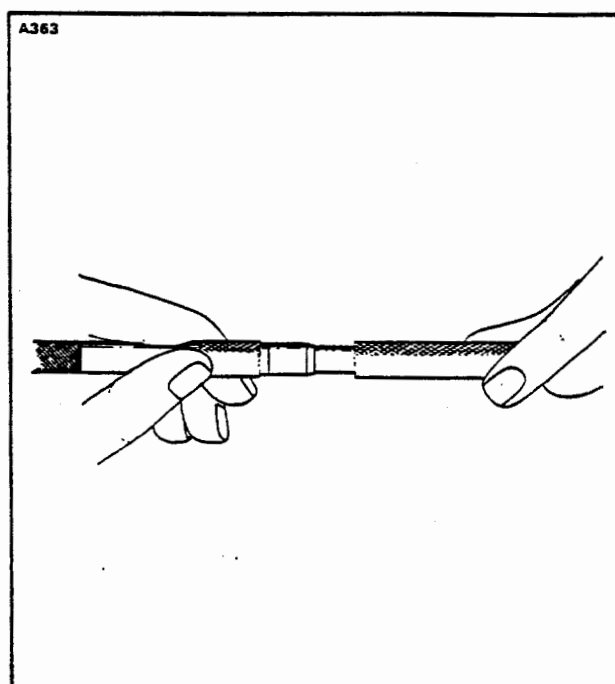

Figure 8-22. Inserting Stripping Tool
- d. Make sure the stripping tool is inserted past the cutting mark, then cut the shielding with a sharp knife using a rolling motion and remove the shielding and stripping tool. Take care not to cut the silicone insulation. Refer to Figure 8-22.